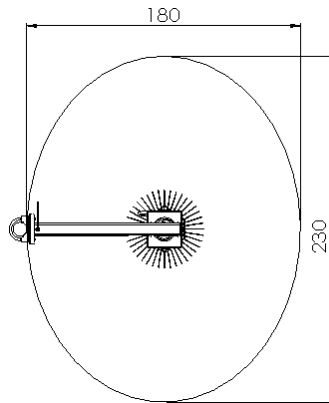

Figure 1
- From the center of brush 90 cm each front to back and 115 cm each left to right must be free of any obstacles for the brush to swing over easily as shown in Figure 1.